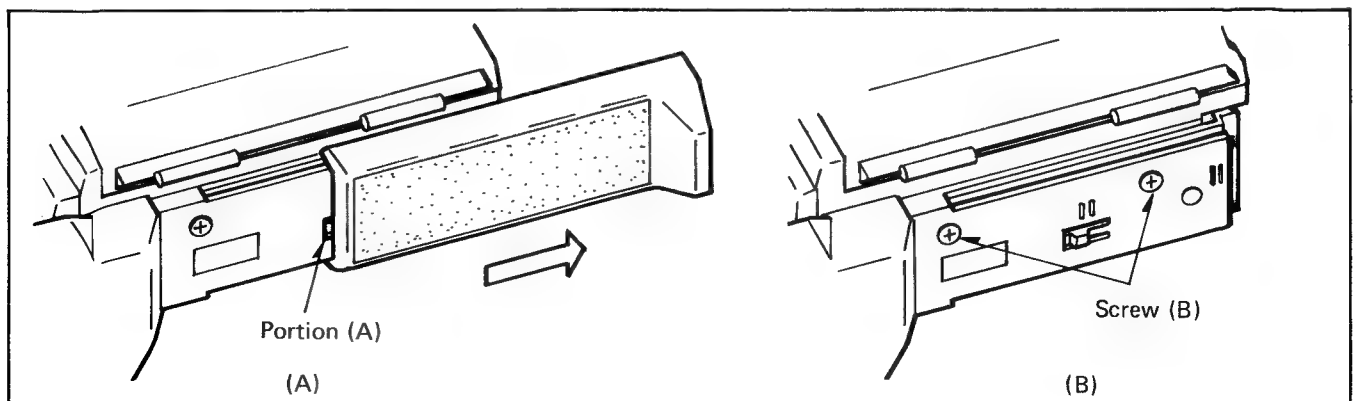

Fig. 1.
Then, press the (A) portion and move the shoulder slide to the rear as shown in Fig. 1-A, Unscrew 2 screws (B). (See Fig. 1-B)